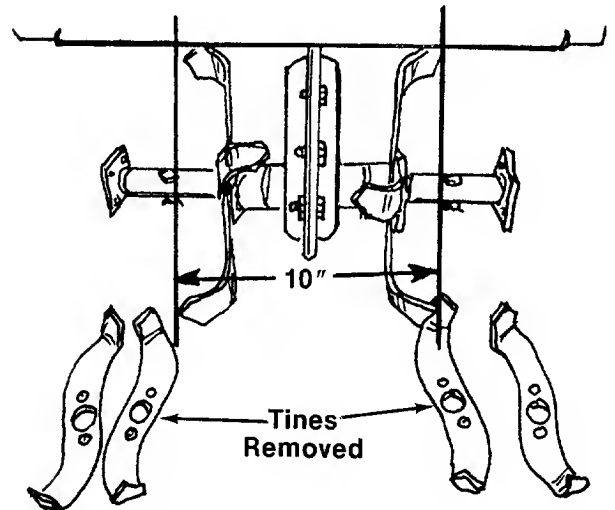

FIGURE 18.
3. The minimum tiller width that can be obtained is 10 inches. Remove the outer tines by removing the two self-tapping screws on the outside of the tines. See figure 18.